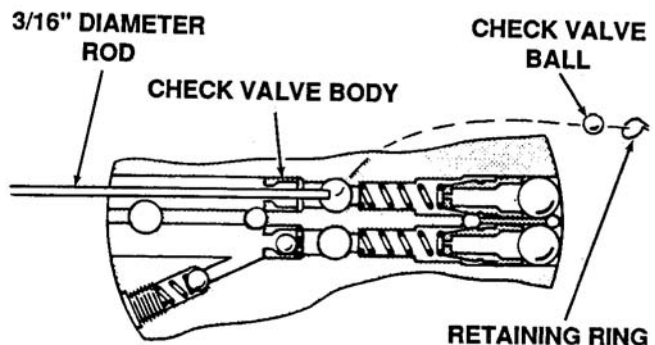

Figure 6-95. Removing Check Valve Ball
- n. Insert 3/16 inch diameter rod through the check valve body. Tap the rod against the check valve ball to dislodge the retaining rings. Repeat for the second check valve ball and ring. Shake dislodged rings and balls out the large port area of pintle journal. See Figure 6-95.